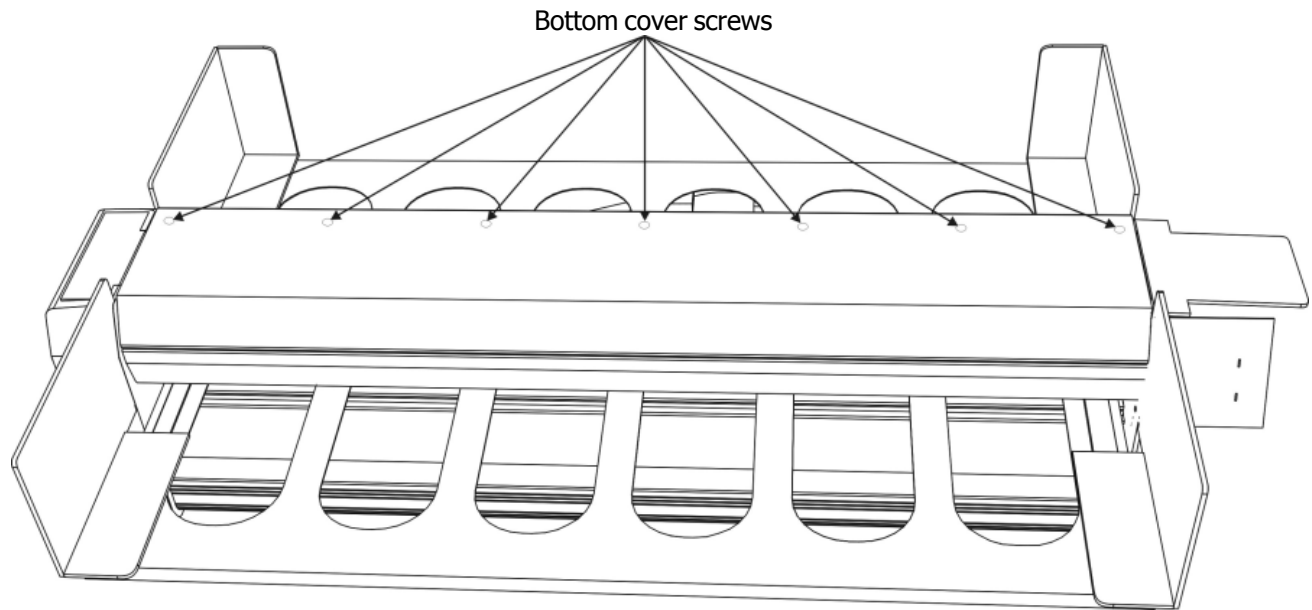

Fig. 5-6 Bottom cover screws
5. Remove the phillips screws along the bottom cover's edge. See figure 5-6